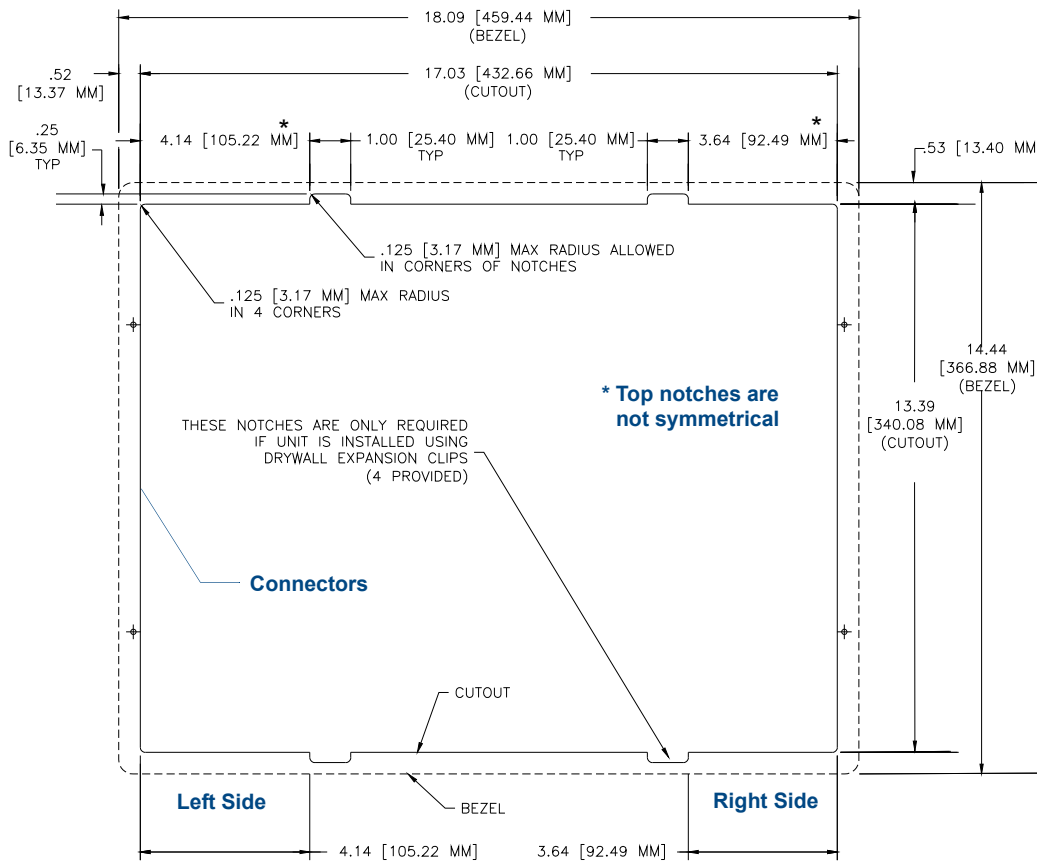

FIG. 58 NXD-1700VG Wall Mount panel dimensions using expansion clips
4. Cut out the surface for the NXD-1700VG Wall Mount using the dimensions shown in FIG. 58. Be sure to cut out the four notches along the top and bottom areas to accommodate the four drywall expansion clips (provided).
9. Cutout the notched beam (FIG. 58) using a height of 13.554" (34.43 cm) and a depth *using the following guideline. This notched beam is located on the side of the NXD unit furthest away from the connectors.*
- Calculate the distance from the edge of the mounting ridge (FIG. 58) to the rear point (on the box) where the beam touches the back box. Our example uses **1 3/8" (inches)** (on the deepest point of the rear back box).